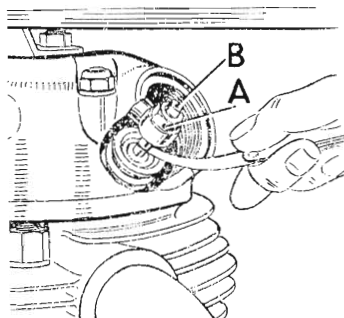

FIGURE 10.
When the exhaust valve clearance has been adjusted, rotate the motor forward again until this clearance is just taken up (i.e., just before the valve actually starts to open). This is the correct position for checking and adjusting the intake valve clearance. Check the valve clearances by sliding a feeler gauge between valve stem and adjusting pin, as shown in Fig. 10.
If the clearance requires adjusting, slacken the locknut (A) Fig. 10, and adjust pin (B) until a feeler gauge of the correct thickness will just slide between the valve and pin.
The clearance between the rocker arm and valve stems is adjusted by means of eccentric rocker spindles, although the gauge is still inserted through the inspection aperture as shown in Fig. 10.